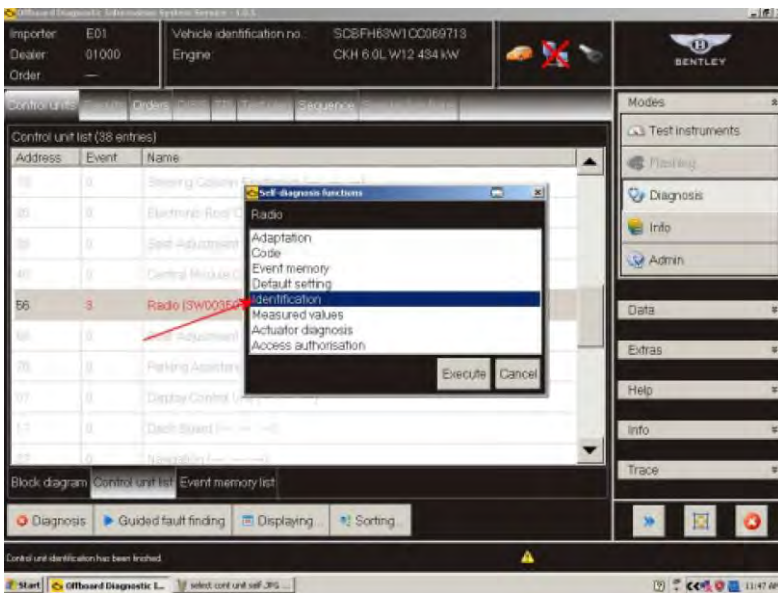

Figure 4
6. Select *Identification* and then *Execute* (see Figure 4)